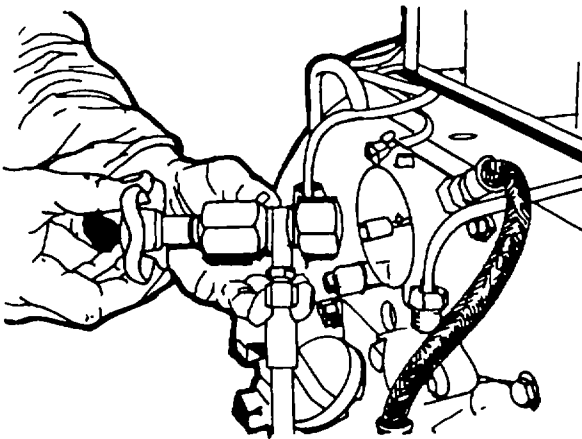

Figure 4-45. Connecting High-Pressure Tester
- b. Disassemble the fuel filter. Disassemble the fuel line of cylinder 1 connecting with the pumping element and the leak-off line connecting with the fuel injection pump cover. Plug the leak-off hole and connect the pressure line of the instrument to the threaded sleeve for the fuel filter (figure 4-45).